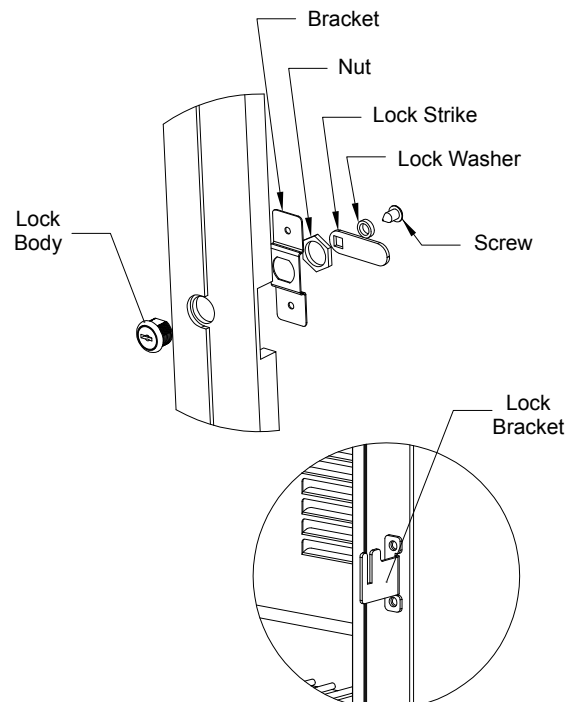

Figure 6. Door Locks
1. See Figure 6. Attach mounting bracket to wood overlay.
The condenser should be cleaned every 3 months. The condenser is located behind the toe plate (Figure 6). Remove the toe plate and use a soft bristle brush and vacuum to remove dust and lint. Avoid damaging or crushing the condenser fins or tubing. Upon completion, re-install the toe plate.